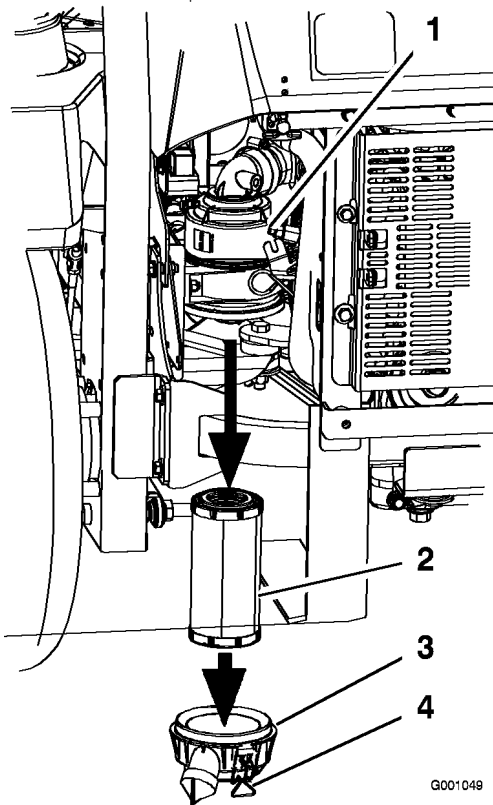

Figure 32
3. Release the latches on the air cleaner and pull the air cleaner cover off of the air cleaner body (Figure 32).
5. Gently slide the filter out of the air cleaner body (Figure 32). Avoid knocking the filter into the side of the body.